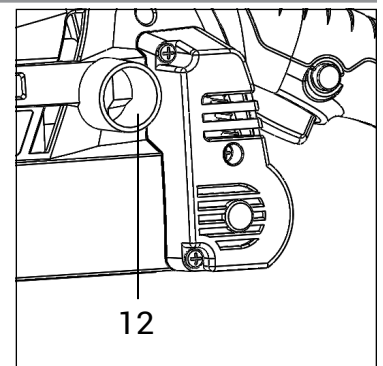

Fig. 3
- Push dust box onto the dust port on the side (Fig. 3 - 12).
1. With the dust box removed, attach the dust hose of your dust extraction system to the dust port (Fig. 3 - 12). You may install the dust port adapter, or reducer to adjust the size of the dust port to fit your dust hose.